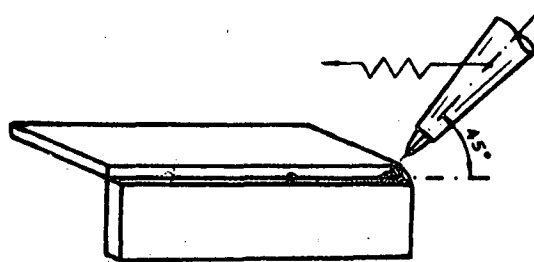

Fig. 3
a) Incline the tip through 45° and direct the cone to the centre of the joint (fig. 3).